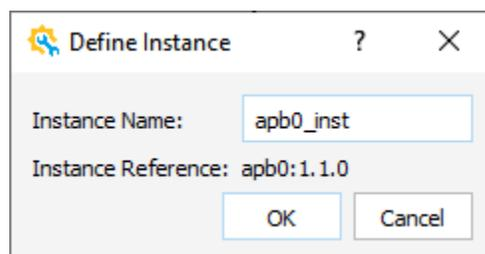

Figure 2.63. Define Instance Dialog Box
2. Right-click on the component you want to restore, and choose **Instantiate**. The Define Instance dialog box (Figure 2.63) open.